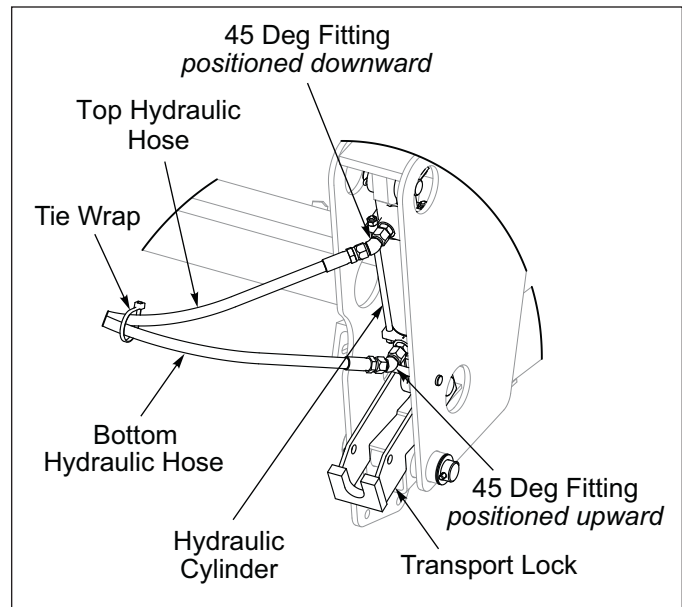

Figure 2-14: Cylinder Fittings Positioning
1. Restrictors installed in Cylinder Ports, connect 45 Degree Fitting so they are free to swivel. Connect top Hydraulic Hose to the Cylinder Base and bottom Hydraulic Hose to the Cylinder Rod End. Position the Hydraulic Hoses so that the Cylinder Base End points downward and the Cylinder Rod End points upward. Merge Hydraulic Hoses together and Tie Wrap them together about 12 inches from the Hose End. See Figures 2-14 and 2-16. Be sure that the Hoses cannot sag and make contact with the Front Roller Wheels.